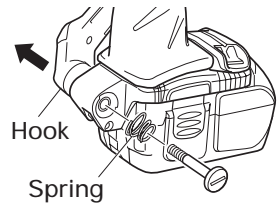

Fig. 7
- (b) Remove the hook and spring. (Fig. 7)